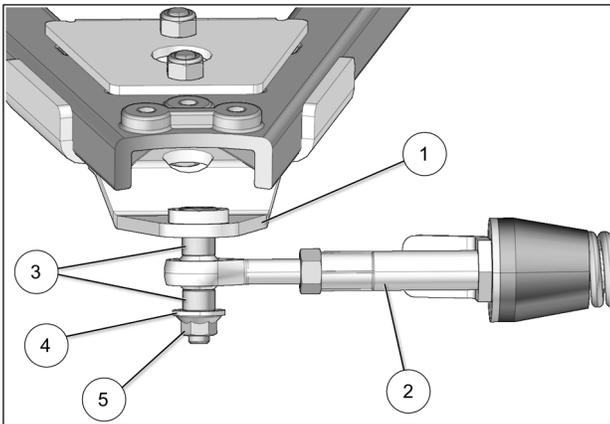

Fig. 25
12. Attach the stabilizing rod (2) to the anchor bracket (1), using the two spacer bushings (3), washer (4), and nut (5). Torque to 70 N•m [52 lb•ft]. See Fig. 25